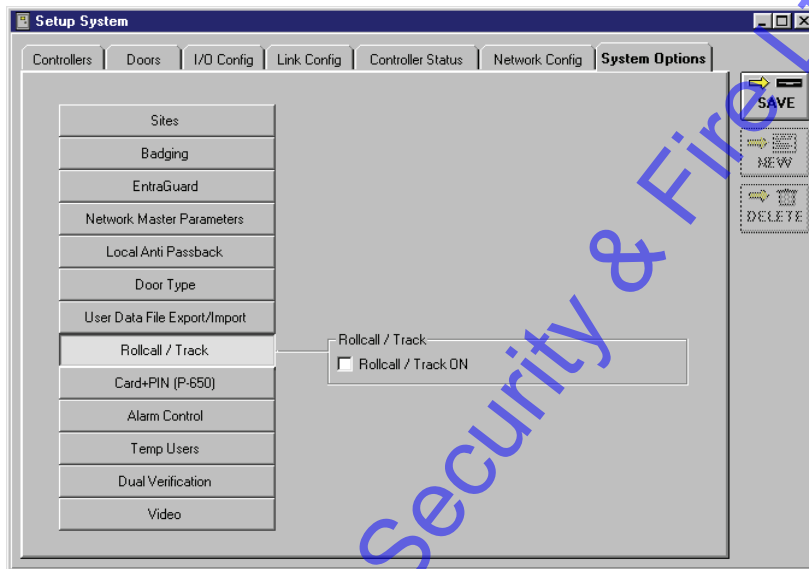

Figure 2-22: Rollcall/Track Field
1. From the System Options tab, click on the  button. The System Options window will reveal the Rollcall/Track field where the Rollcall/Track feature may be enabled (see Figure 2-22).
2. If your application does not use rollcall/track, verify there is **not** a check mark in the Rollcall/Track ON box. This is the default value (see Figure 2-22).